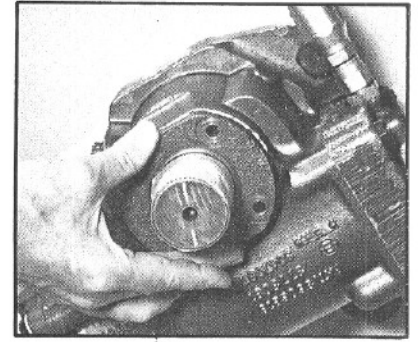

Figure 12
- 1.8 Install the trunnion cover (26) (FIG. 12).